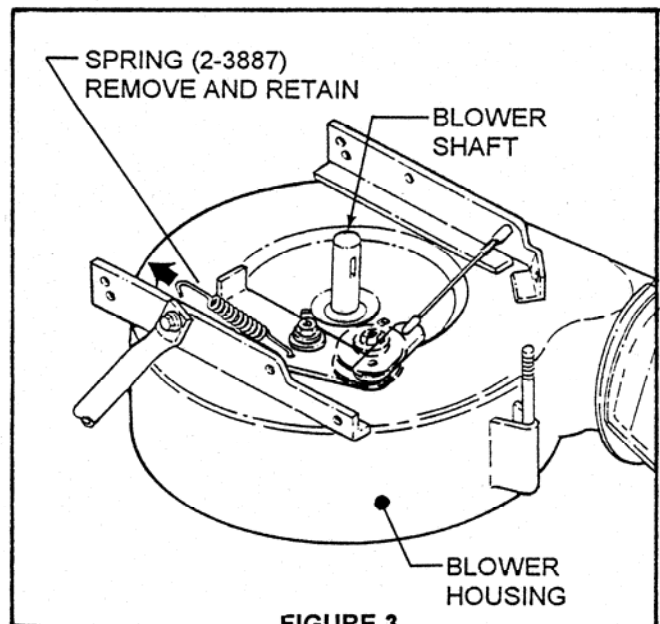

FIGURE 3.
STEP 2: Uncrate snowthrower, (note: refer to the snowthrower operator's manual, part number 2-7861, for instructions on removing the snowthrower from the crate) and lay unit so that blower shaft points upward. See Figure 3. Unhook spring from corner of lift bracket structure and remove from attachment hole in idler arm. See Figure 3. *Do not discard spring as it will be used in step 5.*